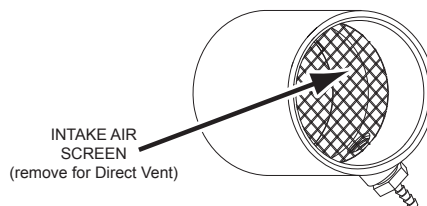

Figure 18. Intake Air Screen
13. Ensure the Intake Air Screen on the Intake Air Connection to the water heater is removed before connecting the intake air pipe to the water heater. See *Figure 18* (page 29).